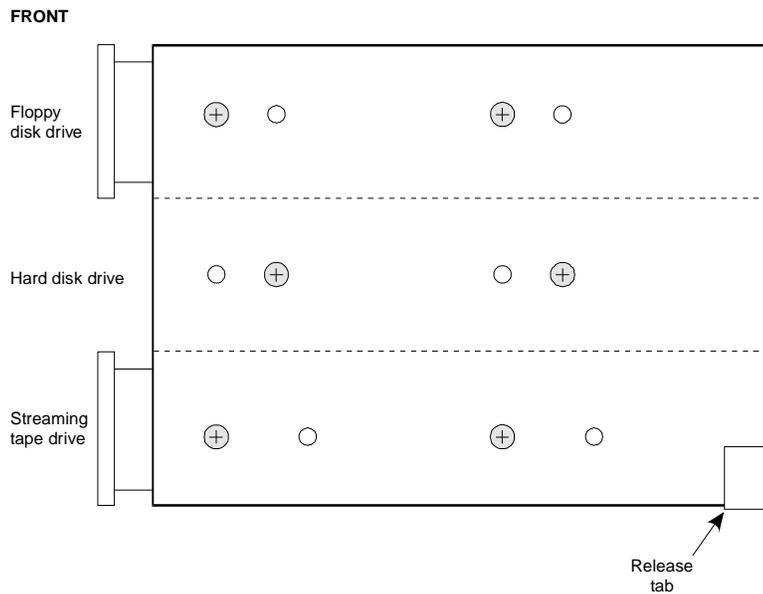

Figure C-29. Location of Tape Drive Securing Screws
3. Remove the two screws on each side of the drive housing that secure the tape drive. See Figure C-29.